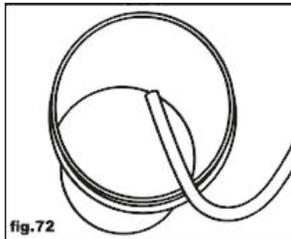

fig.72
- Place priming tube in empty waste bucket (fig.72)